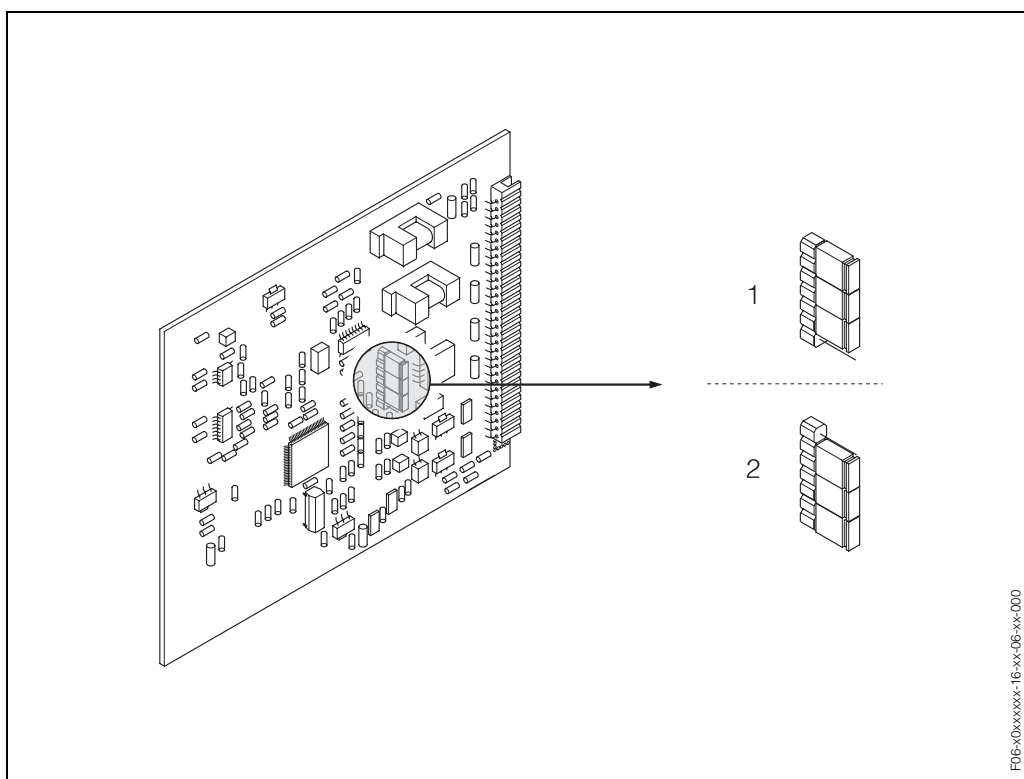

Fig. 46: Configuring the current output (I/O board)
3. Position the jumper according to Fig. 46.
Risk of destroying the measuring device. Set the jumpers exactly as shown in Fig. 46. Incorrectly set jumpers can cause overcurrents that would destroy either the measuring device or external devices connected to it.